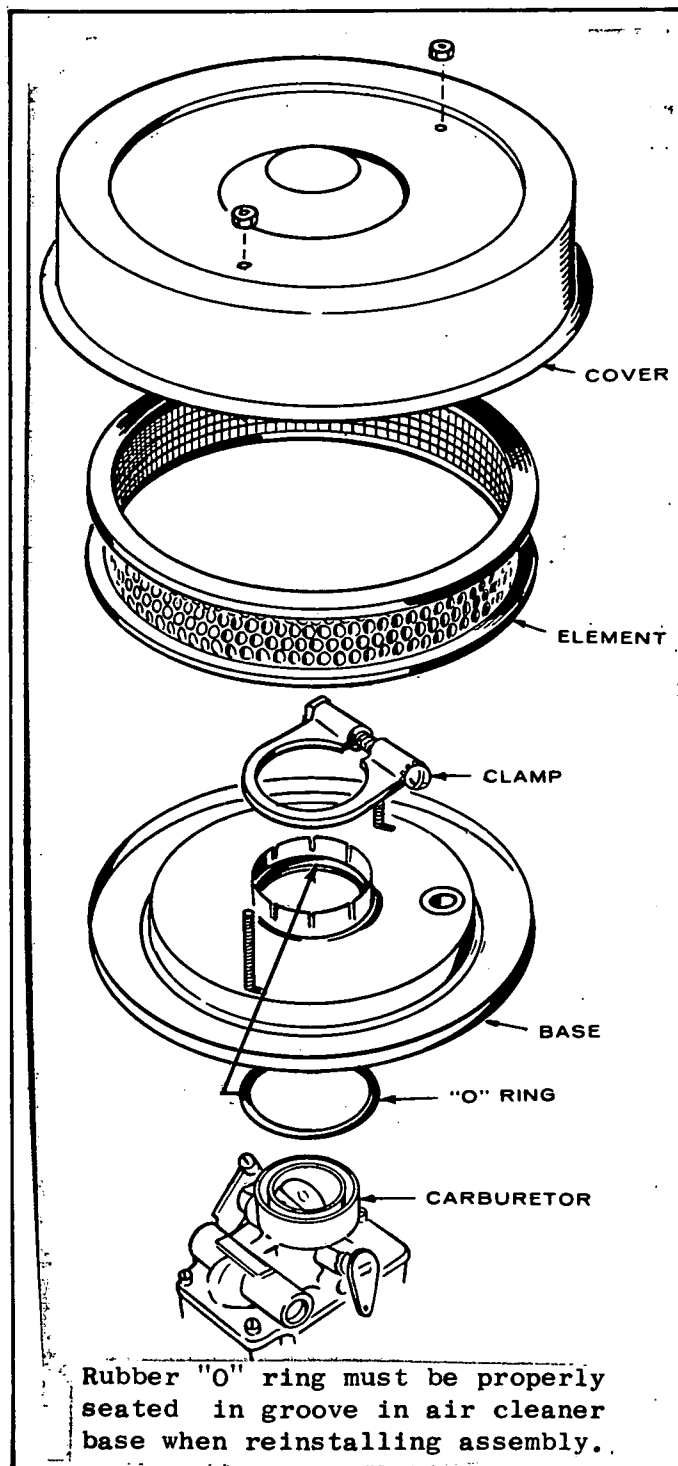

FIGURE 5 AIR CLEANER ASSEMBLY
5. Cartridge Air Cleaner: Check and clean air cleaner element every 50 hours. Clean by gently tapping element on a flat surface. Replace element every 200 hours. Clean or replace more frequently in dusty operating conditions. See Figure 5: